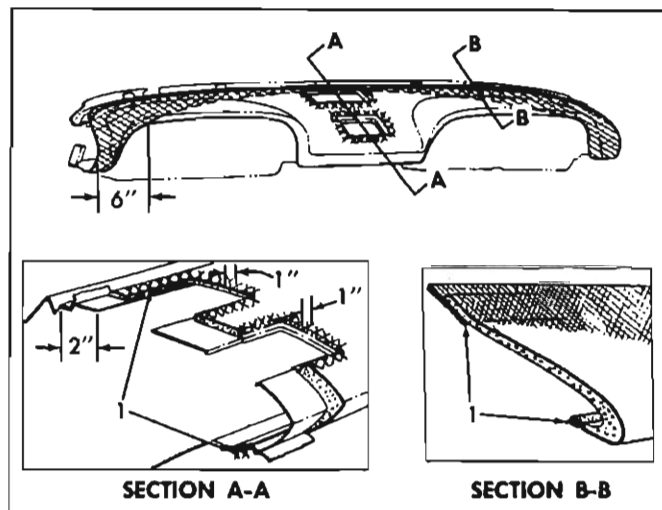

Fig. 1—Instrument Panel Cover
3. Carefully detach cemented areas of cover assembly (fig. 1) from instrument panel and remove cover.
2. Apply a thin coat of an approved neoprene-type weatherstrip adhesive to cementing surfaces of instrument panel cover corresponding to areas indicated by "1" (fig. 1).